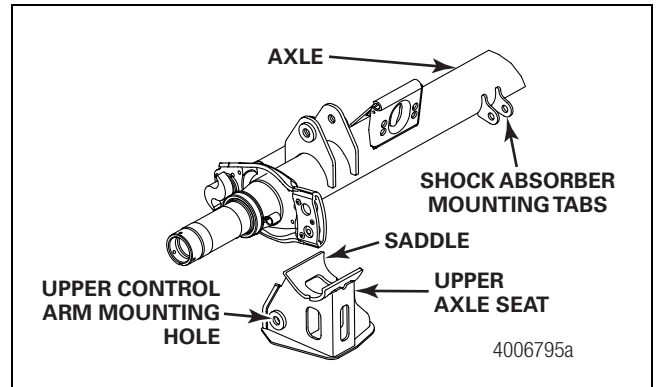

Figure 12
2. Place the new upper axle seats inverted on a flat surface with the air spring mounting holes towards the center and place the axle into the saddles. Position the axle so that the shock absorber mounting tabs are on the opposite side of the axle in relation to the new upper axle seat control arm bolt hole. Figure 12.